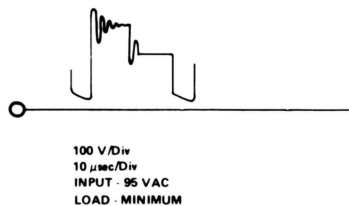
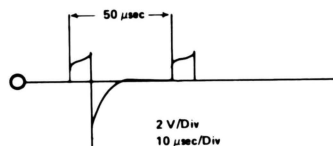

Figure 2. Q2 Collector Waveforms
Figure 3. Q2 Base Waveforms
5. Check the Q2 waveforms. Use the X100 probe on the To-3 package of Q2 and check the collector waveform. The transistor should be switching. The correct waveform is shown in Figure 2. If this waveform is not present, check for a shorted junction on Q2. If there is not one, check the base waveform. The base of Q2 is the transistor pin nearest the bolt attaching the heatsink to the PCB. The correct waveform is shown in Figure 3. If the waveform is not there, read what DC voltage is present. If there is not at least 0.5V on the base, check continuity of L4, Q1, D1, R3, R4, R5, and C10.